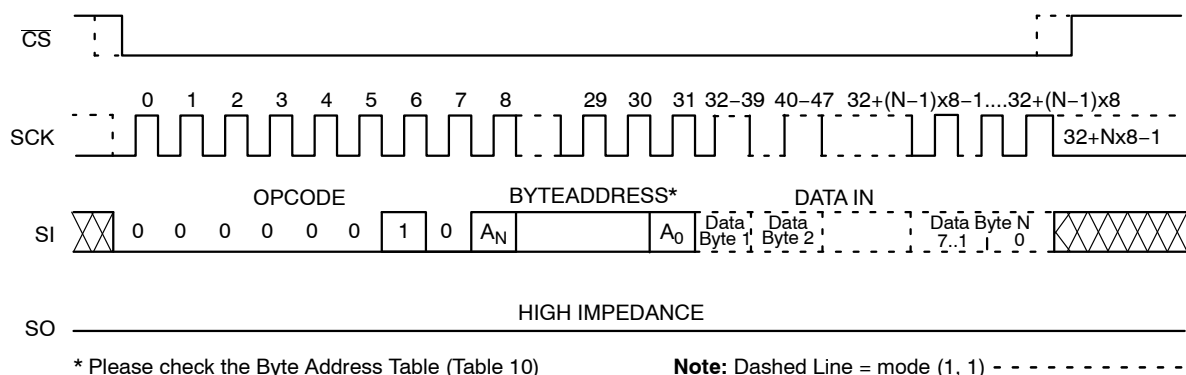

Figure 6. Page WRITE Timing
After sending the first data byte to the CAT25M02, the host may continue sending data, up to a total of 256 bytes, according to timing shown in Figure 6. After each data byte, the lower order address bits are automatically incremented, while the higher order address bits (page address) remain unchanged. If during this process the end of page is exceeded, then loading will “roll over” to the first byte in the page, thus possibly overwriting previously loaded data.
The additional 256-byte Identification Page (IP) can be written with user data using the same Write commands sequence as used for Page Write to the main memory array (Figure 6). **The IPL bit from the Status Register must be set (IPL = 1) using the WRSR instruction, before attempting to write to the IP. Prior to any write to the Identification Page, the Write Enable Latch must be set (WEL=1) by sending the WREN instruction.**